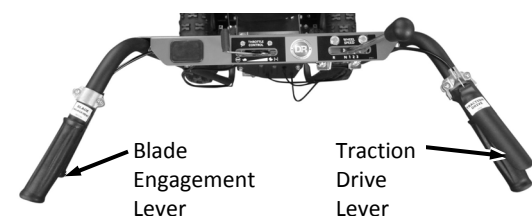

Figure 15
Note: Always release the Traction Drive Lever when shifting gears (Figure 15).
2. Gently squeeze the Traction Drive Lever to engage a gear (Figure 15).